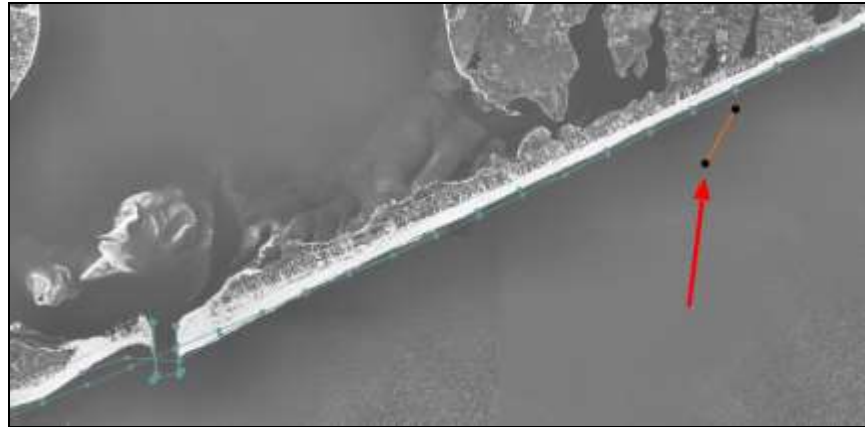

Figure 7 Breakwater northeast of Shinnecock Inlet
3. Using the **Select Feature Arc**  tool, double-click the breakwater arc (Figure 7) to bring up the *GenCade Arc Attributes* dialog.